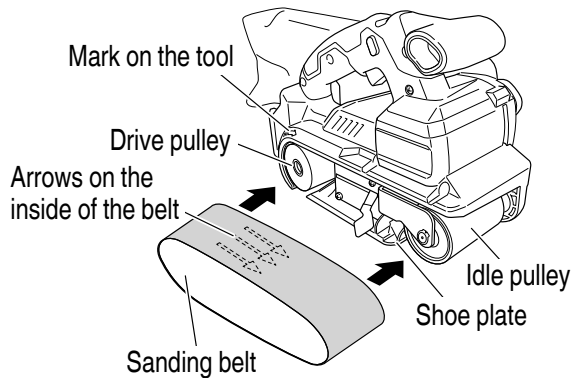

Fig. 9
- (2) Place over the drive pulley and idle pulley, passing it over the outside of the shoe plate, and making sure that the arrow on the inside of the belt coincides with the corresponding mark on the tool. (Fig. 9)